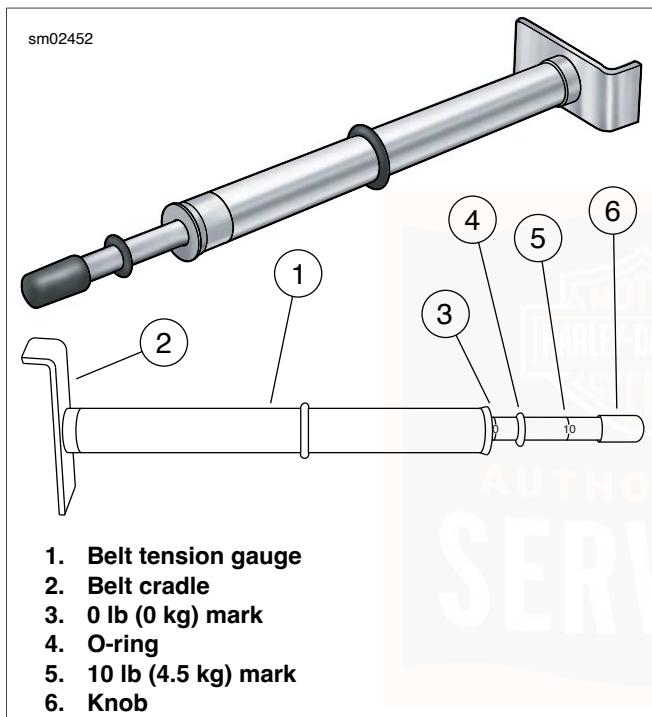
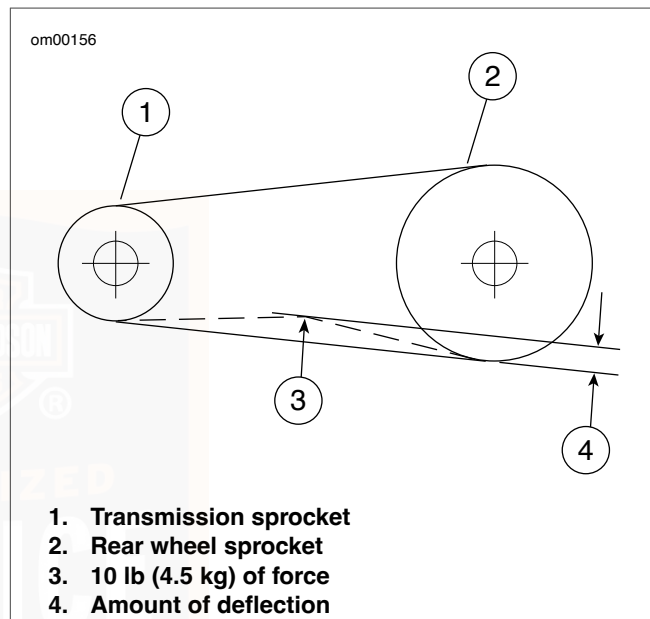

Figure 51. Belt Tension Gauge
Figure 52. Checking Belt Deflection
3. See Figure 51. Measure belt deflection using H-D BELT TENSION GAUGE (Part No. HD-35381-A):
- a. Slide O-ring (4) to 0 lb (0 kg) mark (3).
- b. **Models equipped with belt deflection window:** Fit belt cradle (2) against bottom of drive belt in line with belt deflection window.
- c. **All other models:** Fit belt cradle (2) against bottom of drive belt halfway between drive pulleys.
- d. Press upward on knob (6) until O-ring slides down to 10 lb (4.5 kg) mark (5) and hold steady.
- a. **Models equipped with belt deflection window:** See Figure 52. Measure belt deflection as viewed through belt deflection viewing window while holding gauge steady. Each deflection graduation is approximately 1/16 in (1.59 mm).